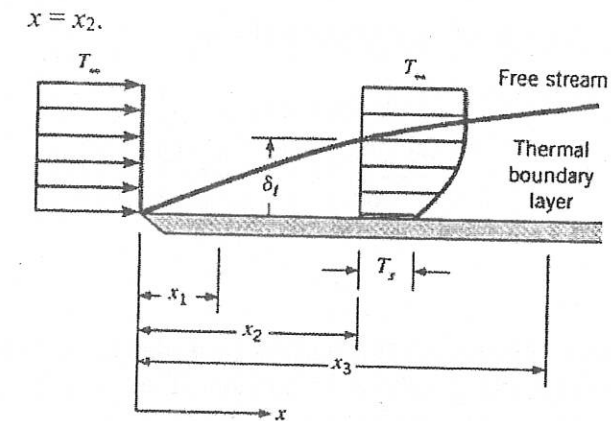

Figure 2.
- What is lumped system analysis? When is it applicable? (3)
- From a heat transfer point of view, what is the difference between isotropic and anisotropic materials? (2)
- What is the physical significance of the Nusselt number? How is it defined? (3)
- The temperature distribution within a laminar thermal boundary layer associated with flow over an isothermal flat plate is shown in Figure 2. The temperature distribution shown is located at $x = x_2$.